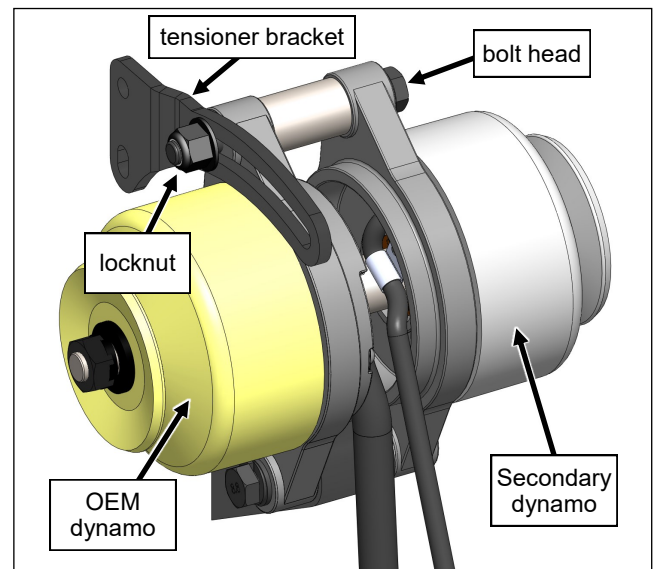

Fig. 2.8 (Engage the tensioner bracket)
- 2.8 See fig. 2.8. With a 13mm wrench, tighten the upper bolt (80mm long) so that the threads protrude thru the OEM dynamo ear and into the adjustment slot on the vehicle's tensioning bracket. Keeping the wrench on the head of the bolt, install an M8 flanged locknut and tighten until snug, but loose enough that pivoting adjustment is still available. **NOTE: When threading the locknut onto the bolt, you must use a wrench on the head of the bolt to prevent it from unthreading from the OEM dynamo ear.**